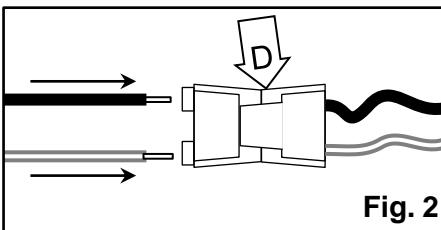

Fig. 2
3. Open the **wire cover** (B) and thread the **supply wires** through the **knockout** (C). Insert the **supply wires** into the **quick connector** (D) aligning the **black supply wire** with the **black fixture wire** and the **white supply wire** to the **white fixture wire**. [Fig. 2]